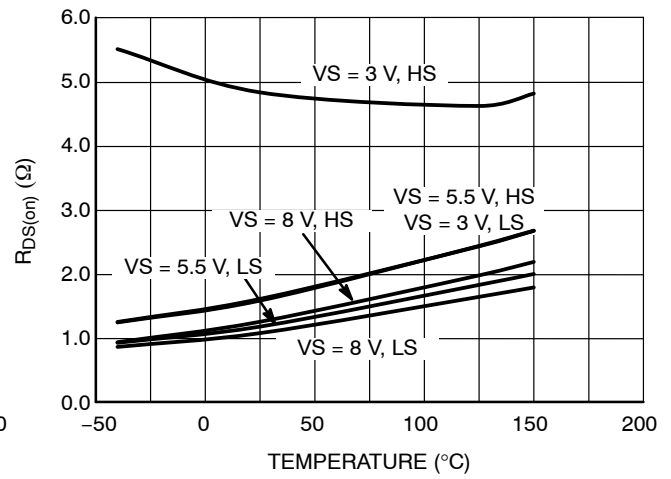

Figure 12.  $R_{DS(on)}$  vs. Temperature
- Refer to Figures 12 and 15 for  $R_{DS(on)}$  behavior.